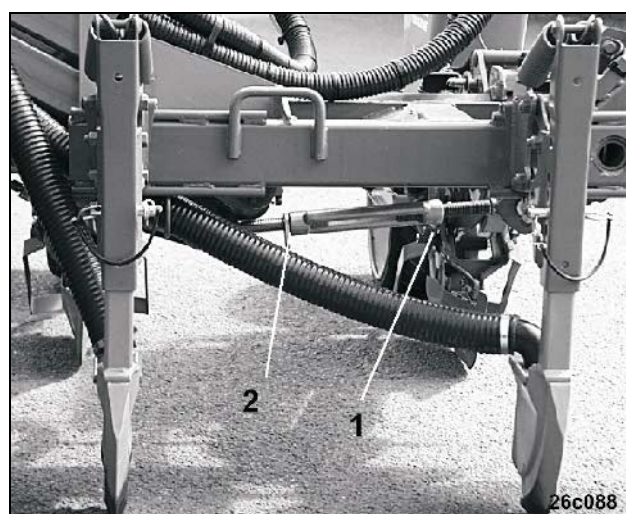

Fig. 102
- Set the turnbuckle (Fig. 102/1) on the marker arm in such a way that the marker discs will just reach the soil.
- Secure the turnbuckle by using a counter nut (Fig. 102/2).